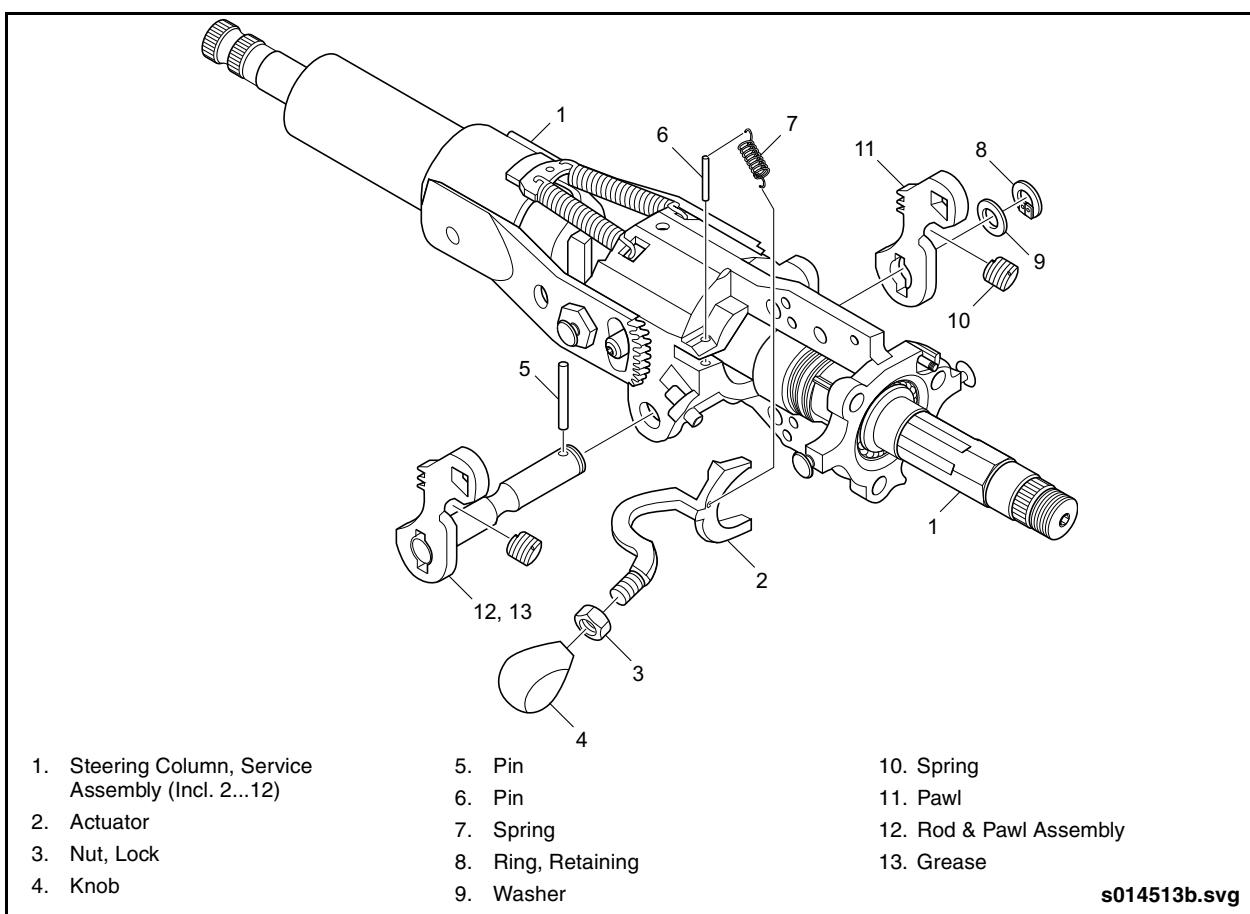

Fig. 3-11: Rod & Pawl Removal
4. Remove the retaining ring and washer from end of pawl rod. See "Fig. 3-11: Rod & Pawl Removal" on page 20.